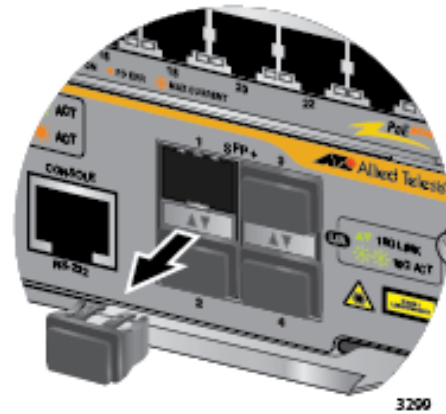

Figure 118. Removing a Dust Cover from an SFP+ Slot in the AT-SBx81CFC960 Controller Fabric Card
1. Remove the dust plug from the slot chosen for the SFP+ transceiver. Refer to Figure 118 on page 197.
1. Remove the dust plug from one of the SFP+ slots. You may install AT-SP10TW Cables in any of the SFP+ slots on the controller card. Refer to Figure 118 on page 197.